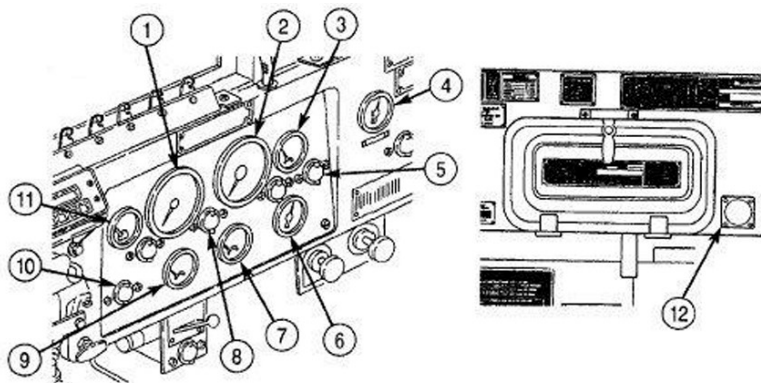
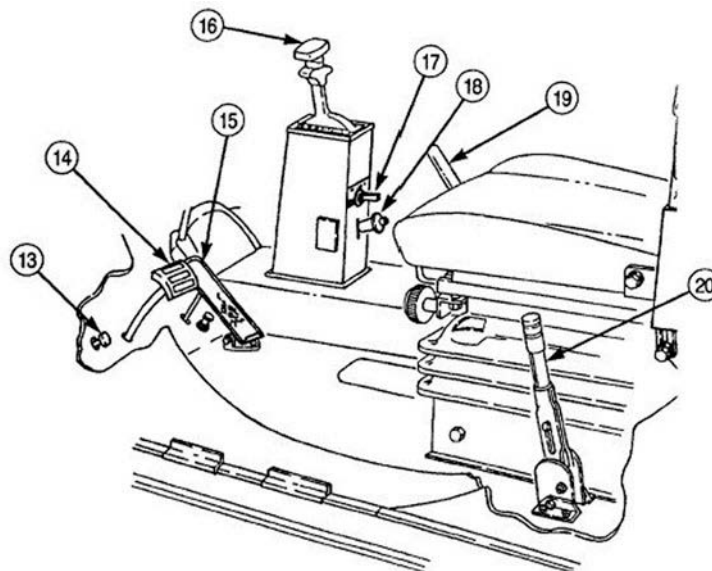

Figure 4-28. M35 cab interior, third view.
Figure 4-29. M35 cab interior, fourth view.
As we continue to discuss the second list of M35 cab interior components, refer to figure 4-28 for items 1 through 12 and figure 4-29 for items 13 through 20.